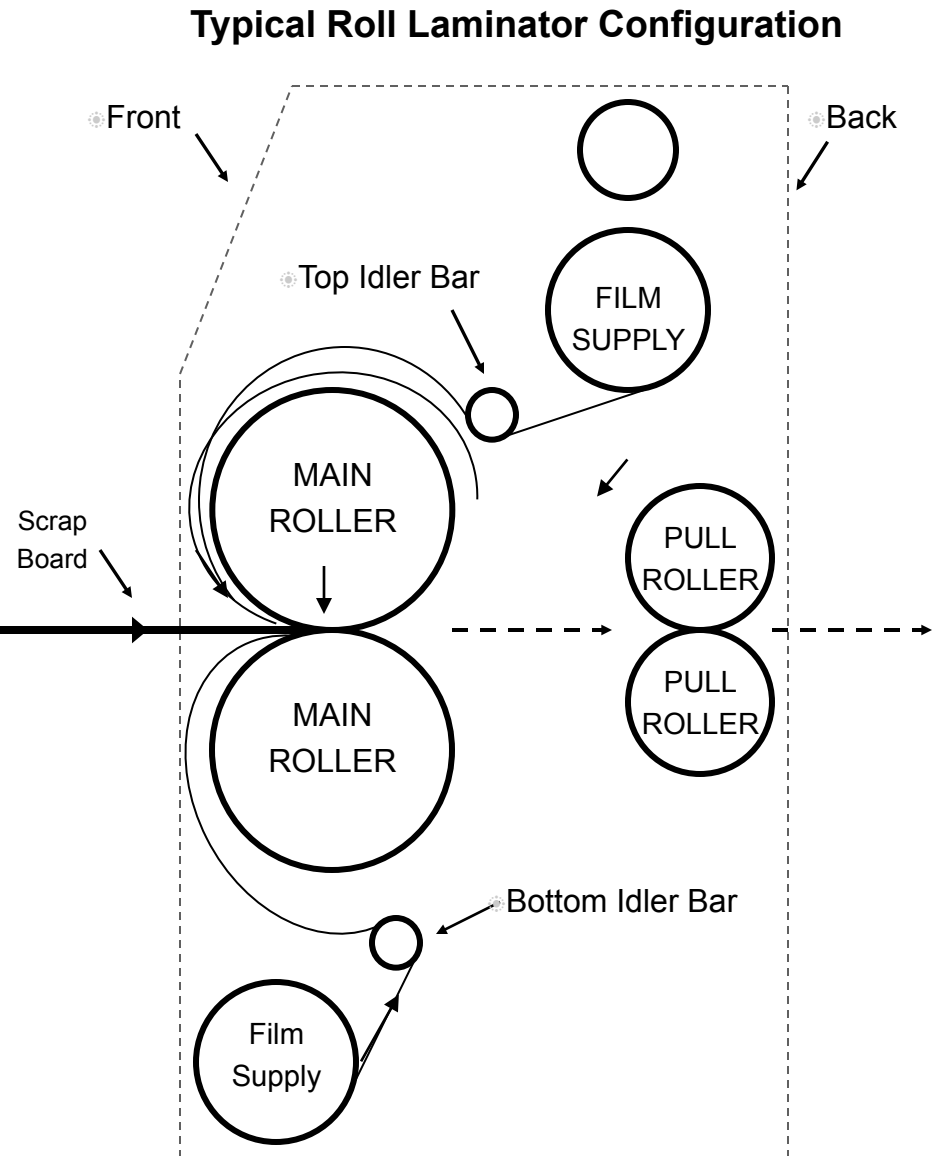

**Figure 1**
**Threading the film onto the laminator. Refer to Figure 1.**
2. Next, bring the film from the Lower Film Supply up behind the bottom Idler Bar, under the Lower Main Roller and up over the Upper Main Roller as in Figure 1, leaving some excess film to fall over the back of the Upper Main Roller.
4. Now, bring the film from the Upper Film Supply under the top idler bar and over the Upper Main Roller and film that you previously laid over the Upper Main Roller. Let the film overlap down to the bottom of the Lower Main Roller. Refer to Figure 1.
Refer to threading instructions for Thermal Encapsulation – Figures 1 & 2